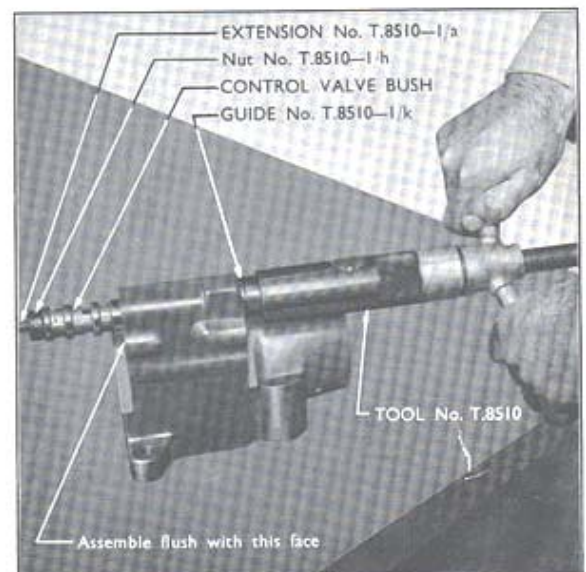

Fig. 54
T.8510-1/g is used for the current plug (see Fig. 53). The same tools as previously specified i.e. T.8510-1/a/h/k, are used for removal and replacement of the new control valve bush but when replacing the new bush it is recommended that the operation is carried out from the rear of the cylinder, pulling the bush in until it is flush with the front face of the cylinder (see Fig. 54). The bush should be located with the long annular recess to the rear of the cylinder.